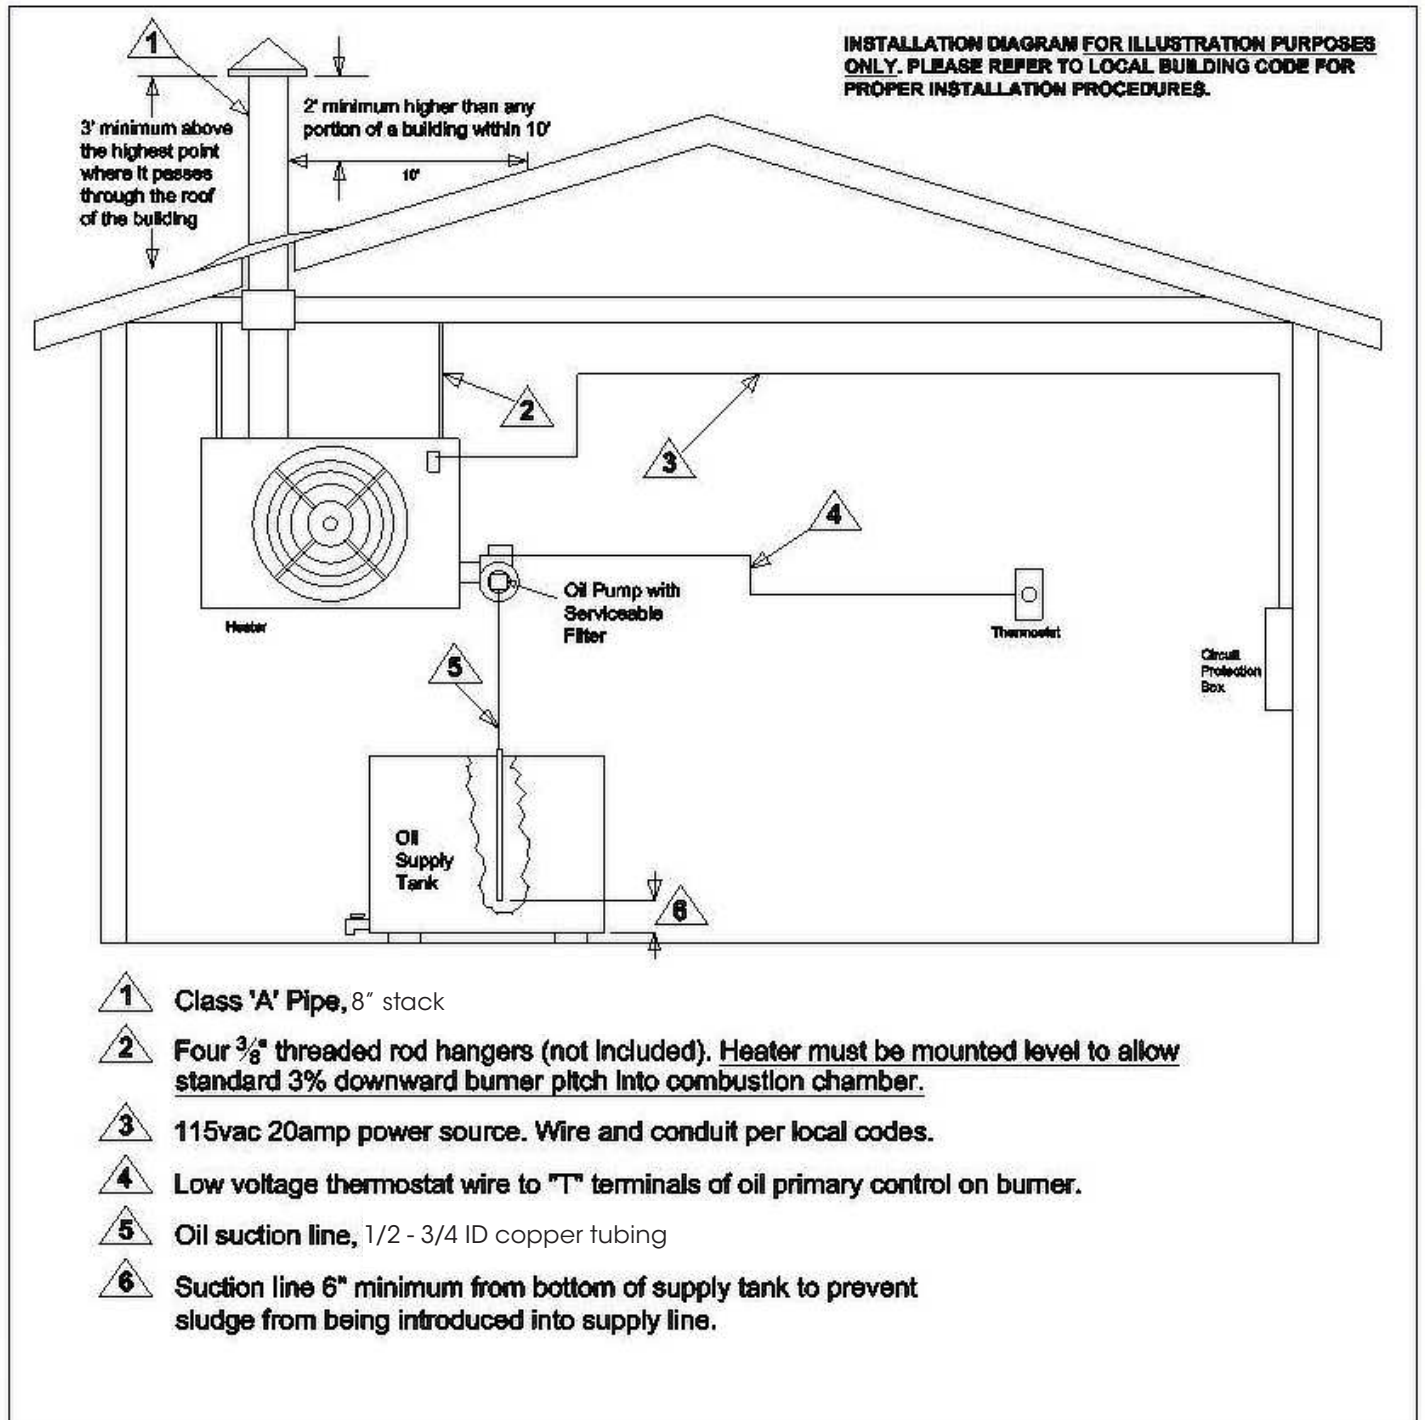

Figure 1 - Installation Diagram
4. Connect 1/2" or 3/4" oil supply line from the supply tank through the filter (figure 1) to the pump inlet located same side as bleeder port (figure 4).